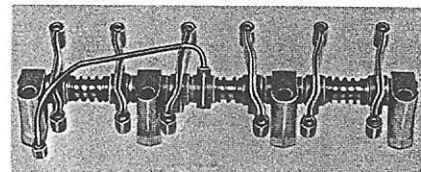

Fig. 55—Assembled view of rocker arm shaft for three cylinder engines
66. The rocker arms and shaft assembly can be removed after removing hood, fuel tank and rocker arm cover. Rocker arms are right hand and left hand units and should be installed on shaft as shown in Fig. 55 or 56. Desired diametral clearance between new rocker arms and new shaft is 0.001-0.0035. Renew shaft and/or rocker arm if clearance is excessive.